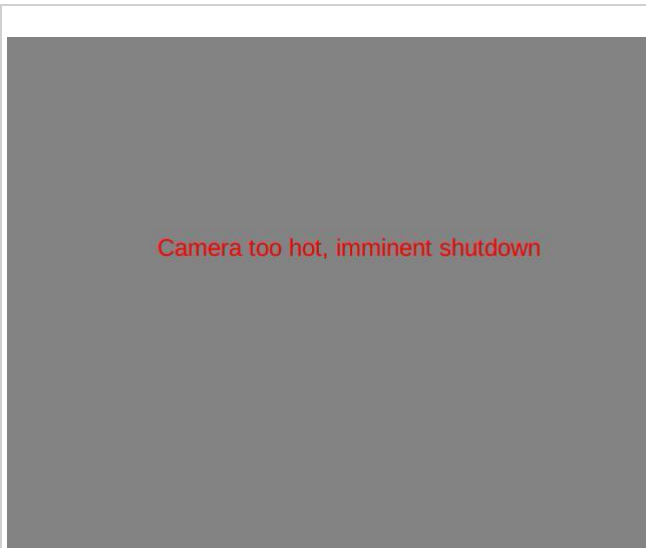

FIGURE 43: "OVERTEMP" SYMBOL (FACTORY-DEFAULT)
- Overtemp State: By factory default, the symbol shown in Figure 43 is displayed whenever the camera is in the overtemp state. See Section 7.2 for full description of this state.